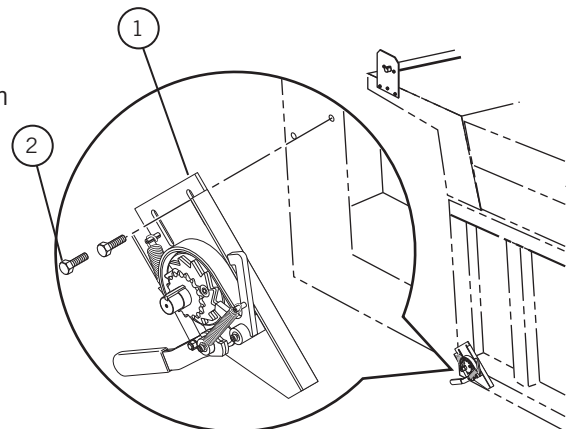

Figure 13-2
- 2) **Figure 13-2.** Place the crank assembly at or near the bottom front corner of the box on the driver's side. Rotate the crank assembly so that it angles toward the tarp roll up bar.